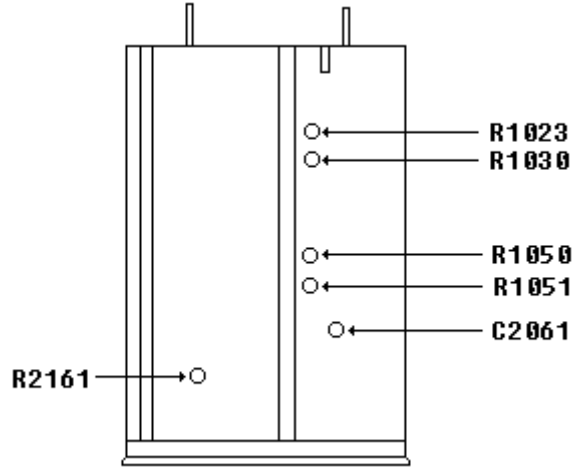
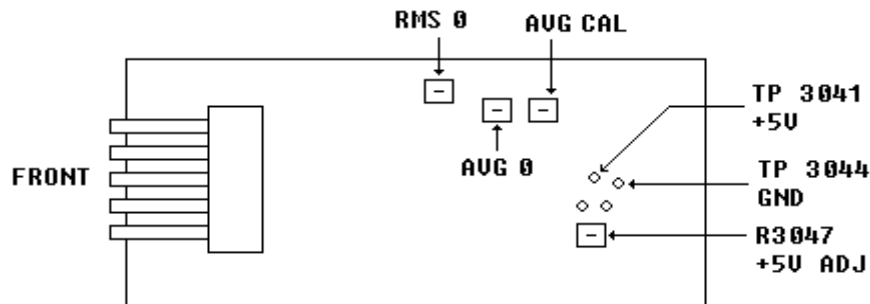
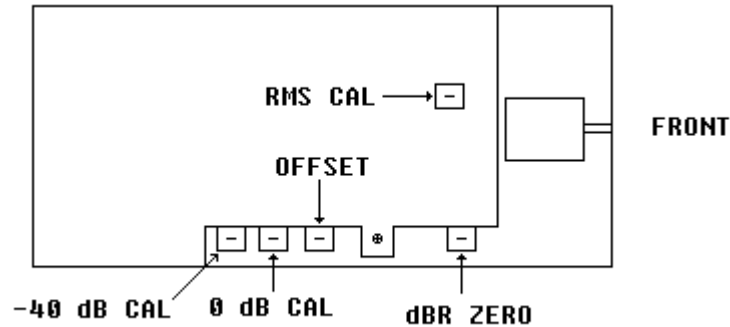

Figure 1. Test instrument - top view.
Figure 2. Test instrument - right view.
Figure 3. Test instrument - left view.
- (1) Disconnect equipment from TI **INPUT**.
- (2) Position controls as listed in (a) through (d) below:
- (3) Short TI **INPUT -** and **+**.
- (4) Connect oscilloscope **Vertical 1** input to TI **FUNCTION OUTPUT**.
- (5) Position oscilloscope controls for 200 mV/div, dc coupled and 200 ms/div sweep.
(6) Press distortion range **2%** and **0.2%** pushbuttons in turn and note oscilloscope display jump amplitude. If jump amplitude is 100 mV or greater, adjust R1050 (fig. 1) for minimum jump amplitude, less than 100 mV, when switching between 2% and 0.2% (R).
- (7) Disconnect short and oscilloscope from TI.
- (8) Connect calibrator **OUTPUT HI** and **LO** to **TI INPUT +** and **-**.
- (9) Position controls as listed in (a) through (d) below:
- (10) Set calibrator for a 15 mV, 1 kHz output.
- (11) Adjust RMS 0 (fig. 2) until TI indicates 0.015 V (R).
- (12) Press **FUNCTION dBm 600Ω** pushbutton and record TI indication.
- (13) Release **RESPONSE RMS/AVG** pushbutton to **AVG** and adjust **AVG 0** (fig. 2) until TI indicates same value recorded in (12) above (R).
- (14) Press **FUNCTION VOLTS** pushbutton.
- (15) Press **RESPONSE RMS/AVG** pushbutton to **RMS**.
- (16) Set calibrator for a 1.5 V, 1 kHz output.
- (17) Adjust **RMS CAL** (fig. 3) until TI indicates 1.500 V  $\pm$ 0.001 V (R).
- (18) Release **RESPONSE RMS/AVG** pushbutton to **AVG**.
- (19) Adjust **AVG CAL** (fig. 2) until TI indicates 1.500 V  $\pm$ 0.001 V (R).
- (20) Press **RESPONSE RMS/AVG** pushbutton to **RMS**.
- (21) Set calibrator for a 1 V, 60 kHz output.
- (22) Record TI indication.
- (23) Set **INPUT RANGE** switch to **20 V**.
- (24) Set calibrator amplitude to 10.00 V.
- (25) Adjust C2061 (fig. 1) for a TI indication 10 times greater than that recorded in (22) above (R).
(1) Set **INPUT RANGE** switch to **2V**.
(2) Set calibrator for a 774.6 mV, 1 kHz output.
(3) Adjust 0 dB CAL (fig. 3) until TI indicates 00.0 dBm (R).
(4) Set calibrator amplitude to 77.46 mV.
(5) Adjust R2161 (fig. 1) until TI indicates -20.0 dBm (R).